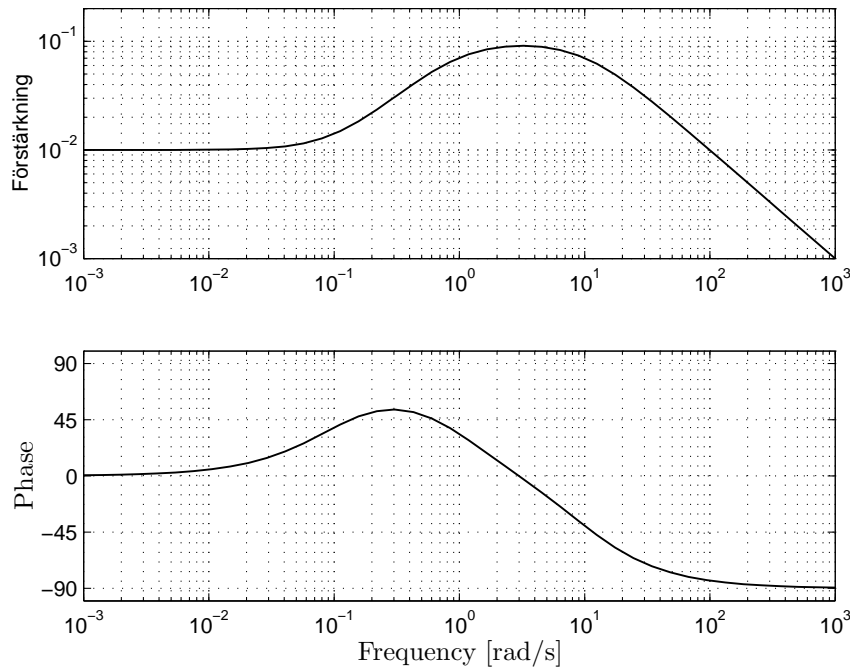

Figure 3.1 The Bode plot in assignment 3.7.
- The Bode plot of the system is shown in figure 3.1. Determine the output $y(t)$ by using the Bode plot instead.